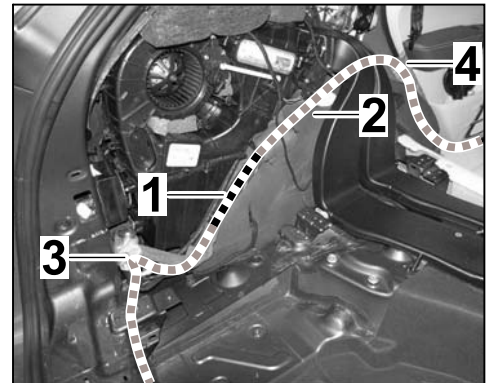

Figure 20
- 3.2.1 Start routing the wire harness at ground point 41 ⇒ *Figure 20 -3-*.
→ wire harness along refrigerant line ⇒ *Figure 20 -1-* → under sound absorber ⇒ *Figure 20 -2-* → standard wire harness in left wheel arch ⇒ *Figure 20 -4-*